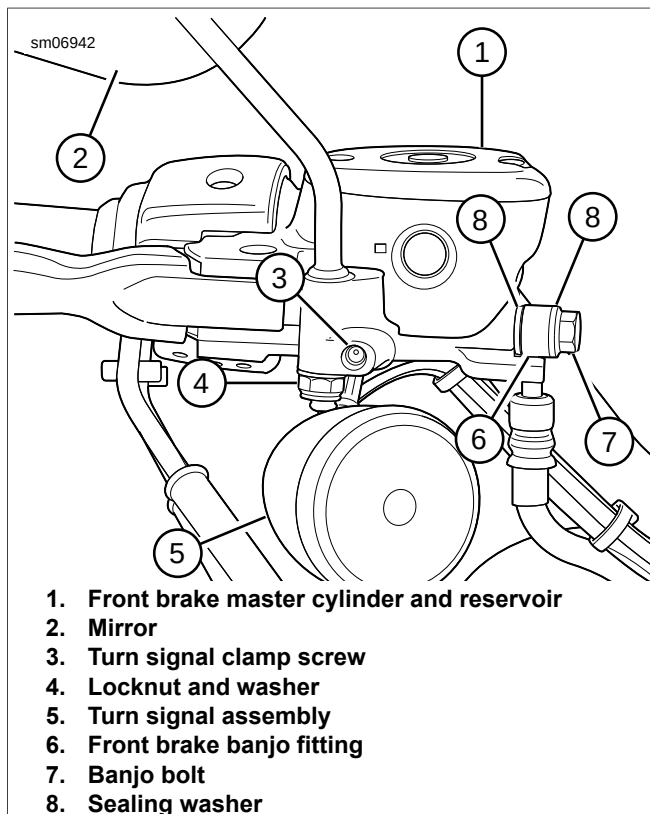

Figure 2-49. Front Brake Master Cylinder (typical)
1. See Figure 2-49. Loosen turn signal clamp screw (3) and remove turn signal assembly (5) from front brake master cylinder housing (1).
2. Remove locknut, washer (4) and mirror (2) from master cylinder housing.
4. See Figure 2-49. Remove banjo bolt (7) and two washers (8) to disconnect front brake line banjo fitting (6) from master cylinder (1). Discard washers.